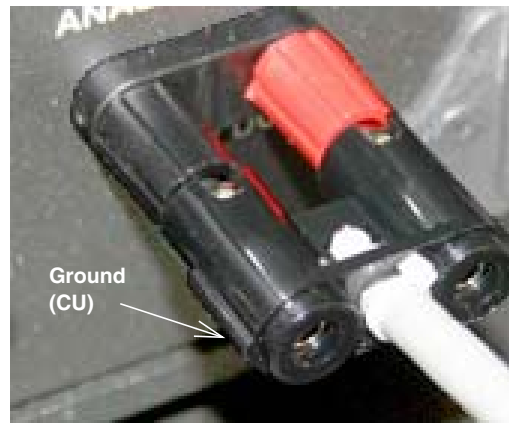

Figure 1-4 Rf external detector cable connections
5. Connect the external detector cable (Isco part #250-0000-20) to the Rf (Figure 1-4).
6. Connect the other end of the cable to the ELSD, taking care to observe polarity as indicated by the small tab on the ground side of the connector (see Figure 1-4).